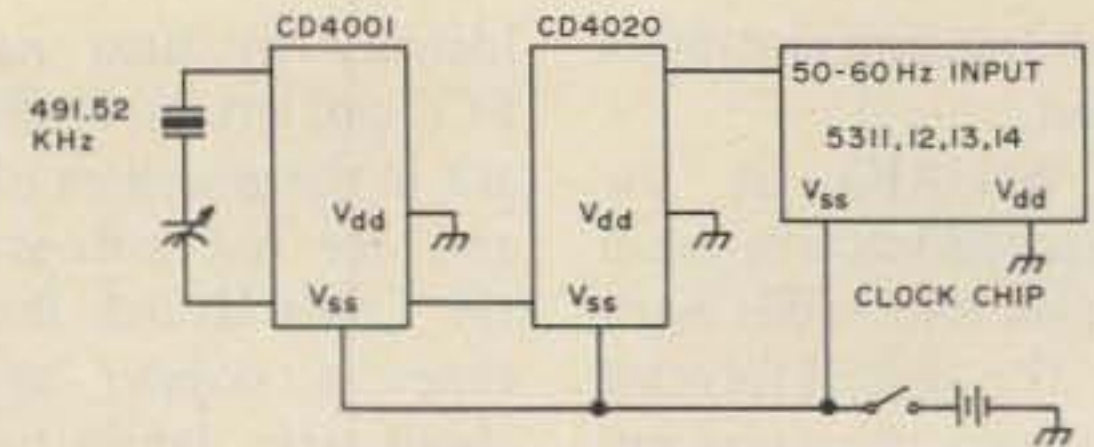

Fig. 1. Crystal oscillator, 13 stage binary divider.
used in a car, boat or any portable requirement. It is the least desirable from the standpoint of cost and complexity. A partial diagram of such an arrangement using the 53XX series of clock chips is shown in Fig. 1. (2) is a relatively uncomplicated arrangement which prevents loss of memory and, depending upon the length of time that the ac power is off, will provide good service. The clock is not triggered during the time the power is off and will show a loss of time when the power returns. Also, during the power off time, the display will not be illuminated. Since the displays draw the majority of power, only the clock chip is battery powered during the ac power failure. Fig. 2 shows a partial diagram of the battery powered arrangement. Either dry batteries or rechargeable batteries can be used and are depicted in Figs. 2(a) and 2(b) respectively. In effect, the battery "floats" across the